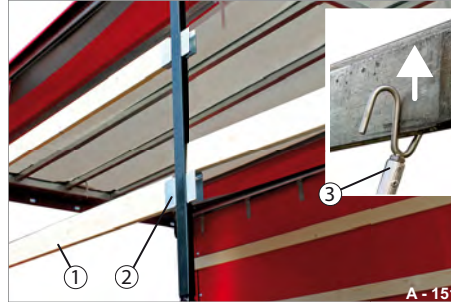

Fig. 210 Disengaging push-in slats
- ▶ Disengage the top push-in slats (Fig. 210/1) from one side - if necessary, use the telescopic operating rod (Fig. 210/3).
- ▶ Insert the push-in slats (Fig. 211/2) in succession, starting from below, into the slot-in pockets (Fig. 210/1) of the corner/middle posts.